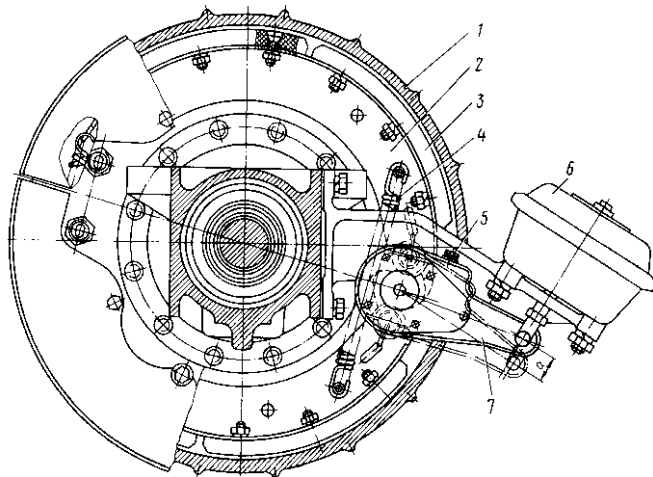

Fig. 36 Service brake
b) Shift the brake pedal and check the travel of stems of brake chambers 6 (Fig. 36). The stem travel shall be within 30–45 mm, the travel difference between the right-hand and left-hand stems shall not be more than 7 mm.